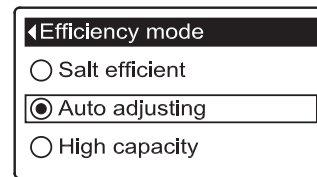

FIG. 75
8a. Efficiency mode: If the desired efficiency mode already has a black dot next to it (See Figure 75), go to Step 9. Otherwise, press the DOWN (▼) or UP (▲) buttons to scroll to the desired efficiency mode, then press SELECT (O) to choose it.